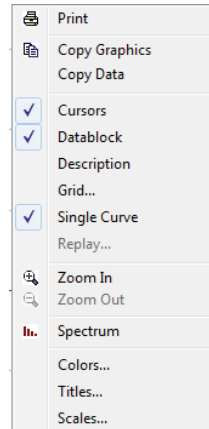

Figure 8
- Right click somewhere in the FlukeView software waveform area, which will open the following menu. See figure 8